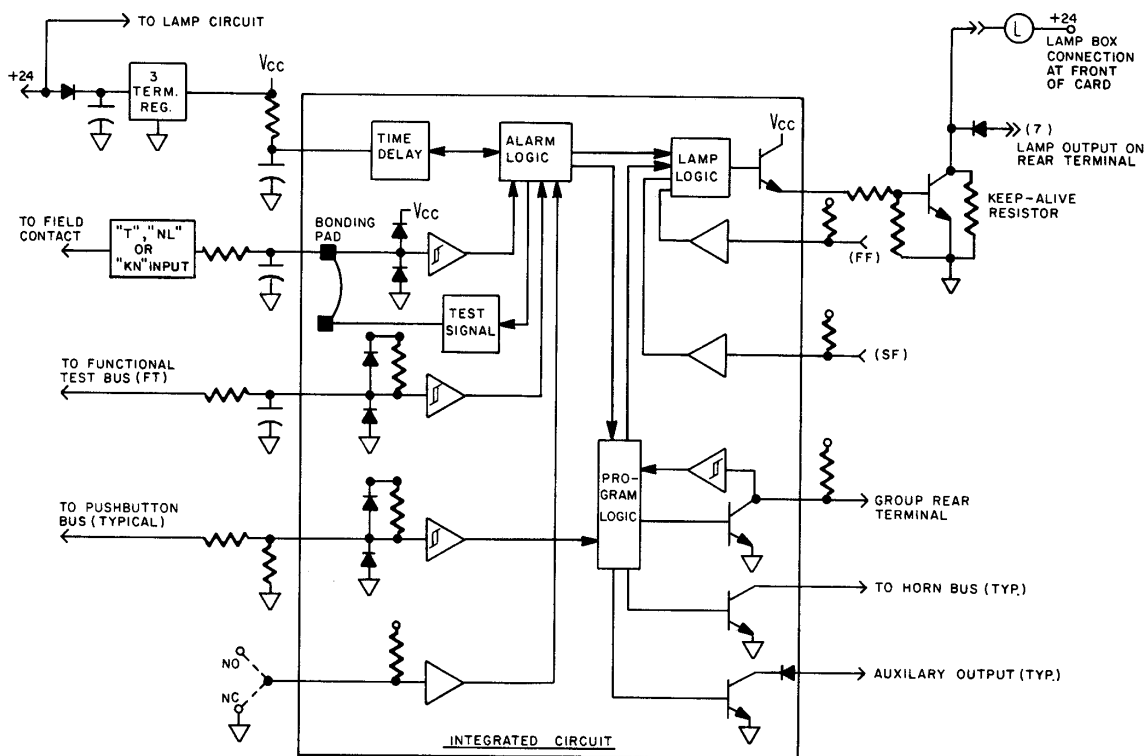

FIG. 3
3.6 SEQUENCE CARD CIRCUIT DESCRIPTION (see Figure 3)